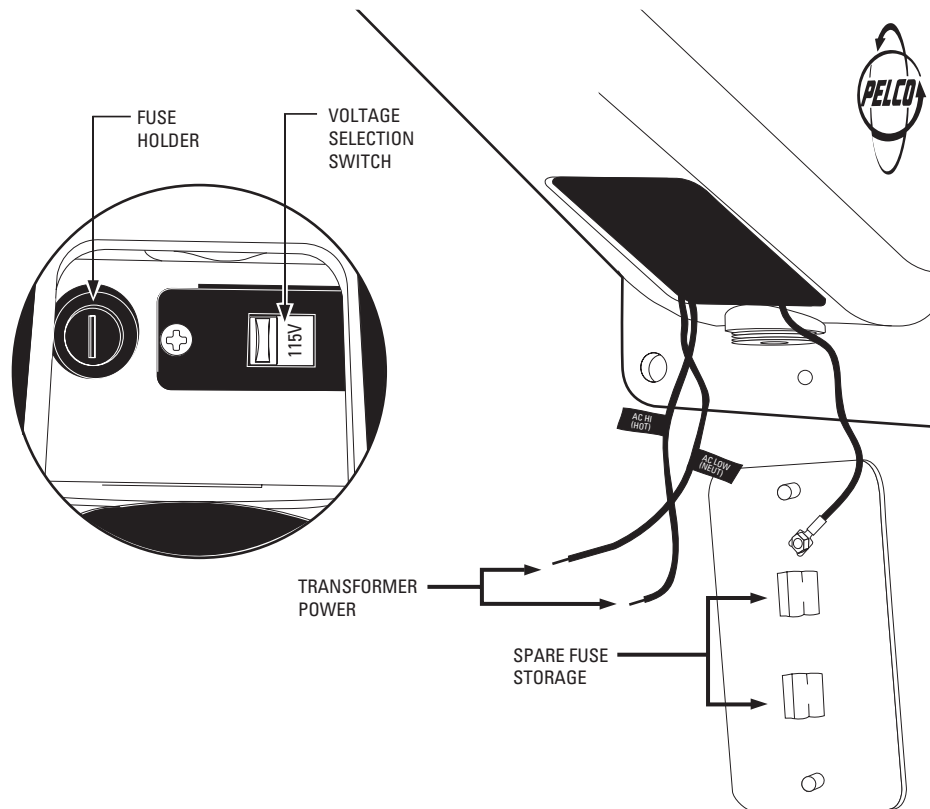

Figure 2. Voltage Selection Switch and Fuse Holder Location
3. The transformer is preset to operate at 120 VAC. If necessary, change the voltage selection switch to operate at 230 VAC. Refer to Figure 2.
4. Refer to Figure 2 and install the proper fuse for the set voltage. The fuse holder is located to the left of the voltage selection switch. The mount arm is shipped with extra fuses. For 120 VAC, use the 1.6A, 120 VAC, fast-acting fuse; or for 240 VAC, use the 500 mA, 240 VAC, fast-acting fuse.